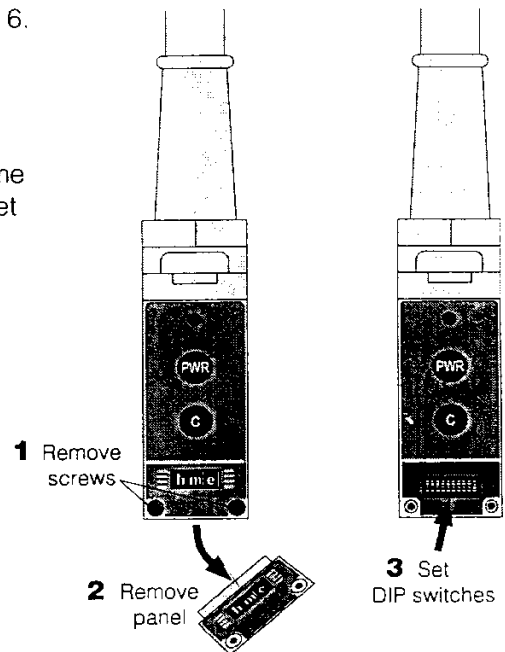

Figure 9.
- Use a Phillips (crosspoint) screwdriver to remove the panel covering the Communicator DIP switches as shown in #1 and 2 of Figure 9.
- Check the positions of the Communicator DIP switches (#3 in Figure 9) to be certain its transmit frequency settings match the receive frequency of the base station, and its receive frequency settings match the transmit frequency of the base station. Refer to Table 2 below.